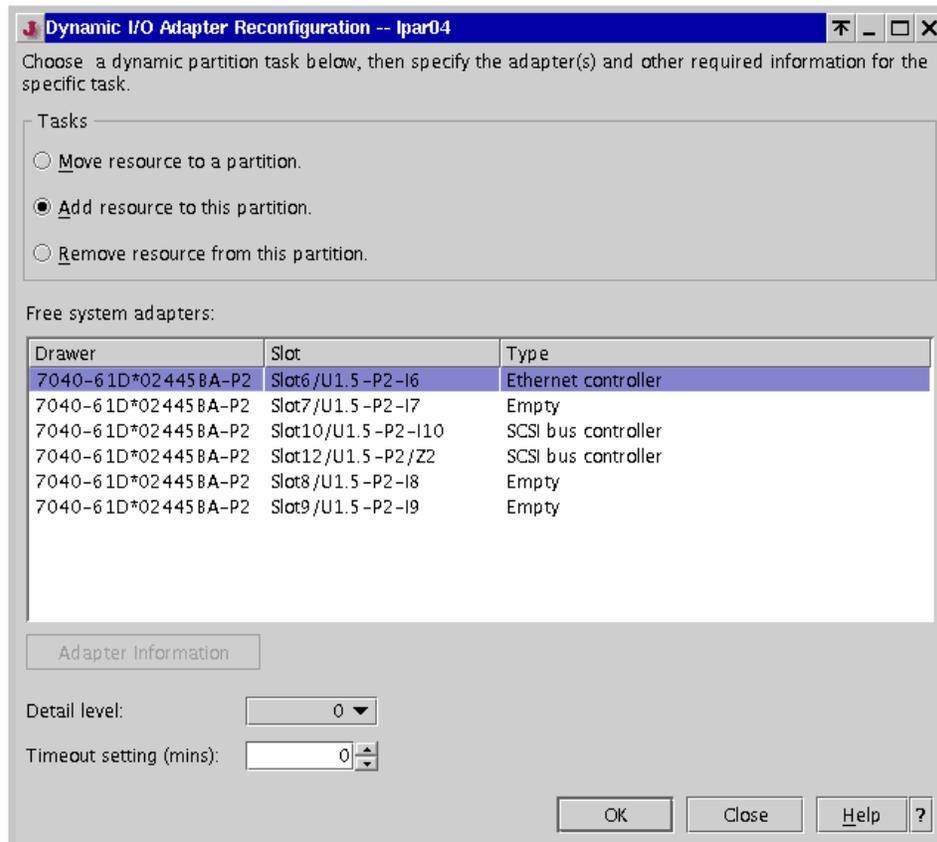

Figure 8-4 Dynamic I/O slot addition to a partition
8. The Dynamic I/O Adapter Reconfiguration window opens. Select **Add resource to this partition**, as shown in Figure 8-4.